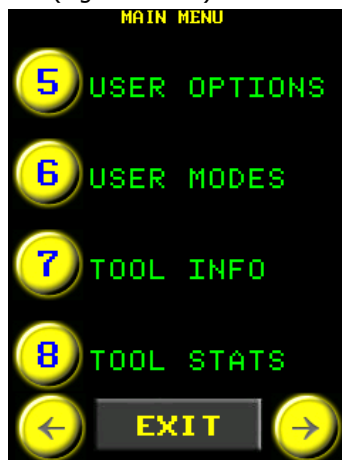

Figure 5.20-1: Main Menu
2. Select **"Tool Stats"** from the Main Menu (Figure 5.20-1).